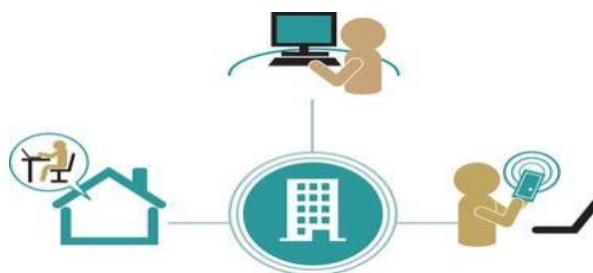

Fig. 1.11: Teleworking
4. Teleworking – Teleworking will continue to grow in 2022, bringing advances in software development. Companies worldwide will need to support hybrid forms of team management and collaboration to increase the productivity of their workforces. (Figure 1.11) As the trend of conducting online meetings and video sales calls continues, this new standard will grow even more in 2022.